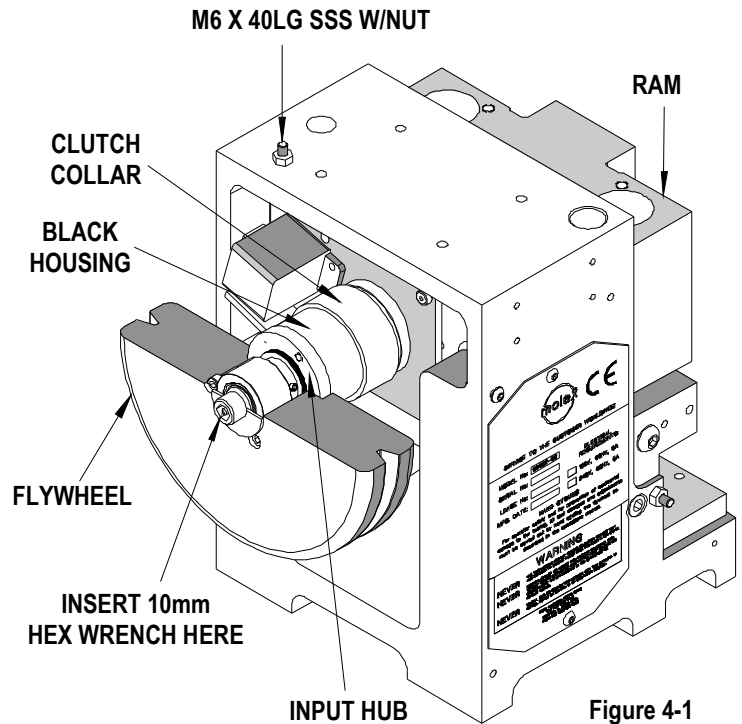
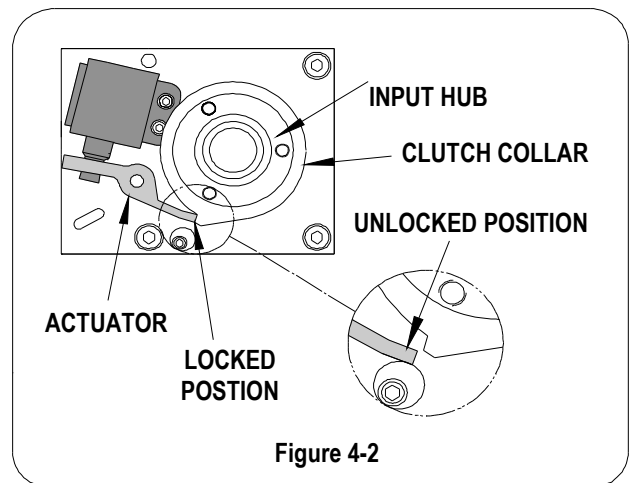

Figure 4-1
Figure 4-2
CAUTION: By disengaging the actuator (See Figure 4-2) the ram will be free to move. The weight of the ram can result in downward motion. Use caution to ensure that the area under the ram is clear of fingers and hand tools. The machine guard should be in place.
1. Remove the rear cover of the TM-42 unit. Verify that the clutch control collar is in the locked position (See Figure 4-2). Insert the 10mm hex wrench into the socket head cap screw. This screw is located in the center of the flywheel (See Figure 4-1). This screw is spring loaded to prevent being left in the unit.
3. Next rotate the input hub/flywheel clockwise by hand. The input hub/flywheel should be free to rotate. During this portion of the operational check, the black spring housing should not rotate. See Figure 4-1.
1. Verify that the clutch control collar is unlocked. See Figure 4-2. The crankshaft, input hub/flywheel, and black spring housing should rotate freely with the 10mm wrench moving the ram down and up.